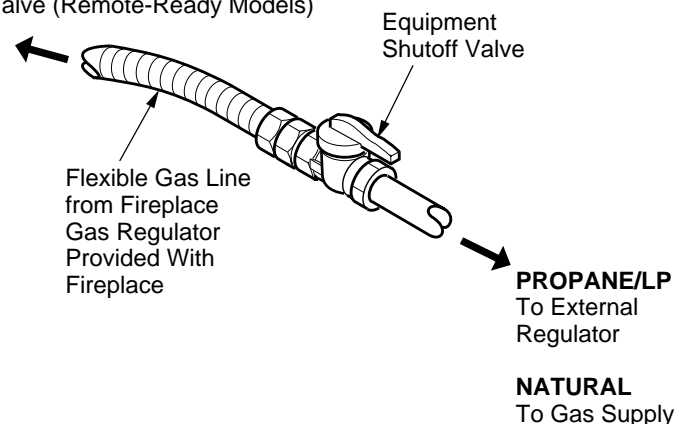

Figure 22 - Attaching Flexible Gas Line to Equipment Shutoff Valve
3. Apply pipe joint sealant lightly to male threads of gas connector attached to flexible gas line/equipment shutoff valve (see Figure 22).